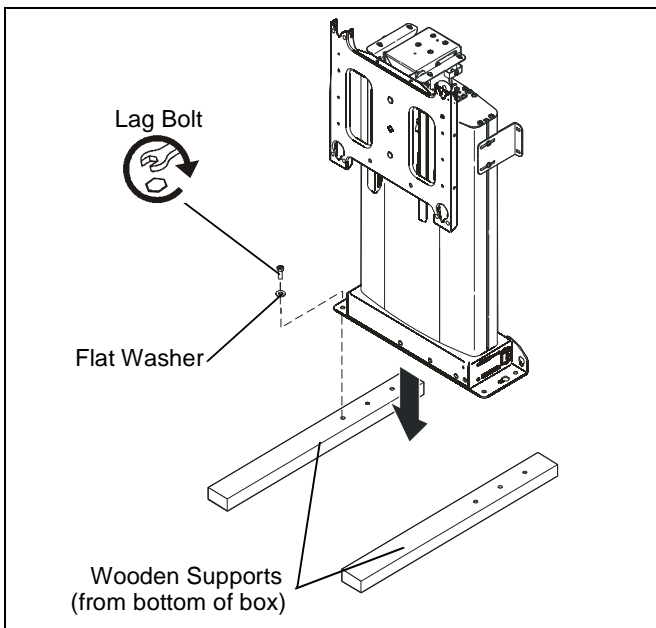

Figure 1
3. Lay two wooden supports on floor and mount to supports using four 5/16" flat washers and four 5/16" x 2 1/2" lag bolts (hardware provided). (See Figure 1)